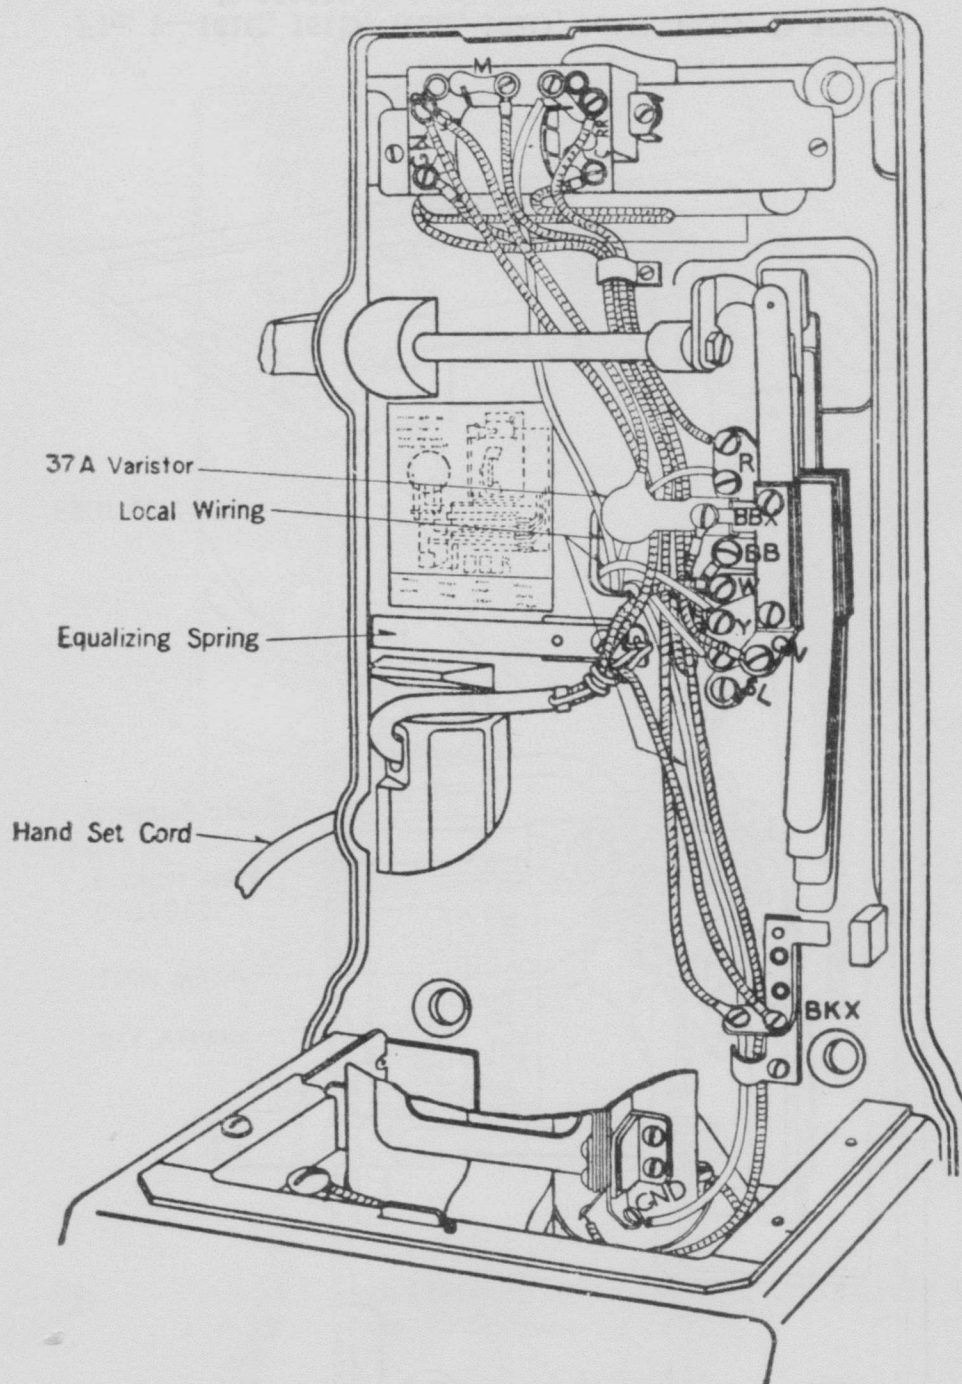

Fig. 8—181, 182, 183-Type Coin Collectors
3.02 Fig. 8 shows the handset cord. H3AE, H3S or H3Y cords may be used. The stay cord should be tied to hook on end of equalizing spring and the end of stay cord disposed of so as not to interfere with any coin collector parts. The cord and free conductors should be arranged in as nearly the same manner as possible to that shown. On 181, 182 and 183-type coin collectors which have conductors passing under the switchhook bracket, the conductors shall be arranged so as to prevent interference with the operation of the switchhook bracket and contact springs or shall be redressed to the arrangement shown in Fig. 8. The conductor end of the condenser may be toward the left or the right of the base.